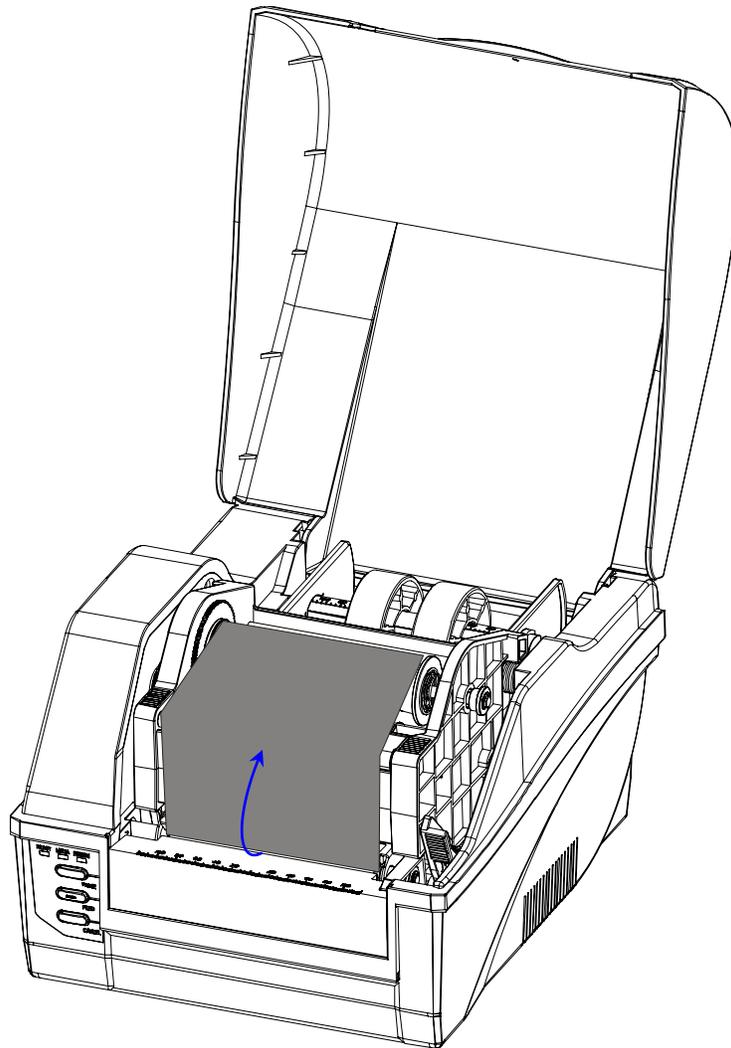

Figure 5-6
7. Load the core into the Ribbon rewinder (see Figure 5-6).